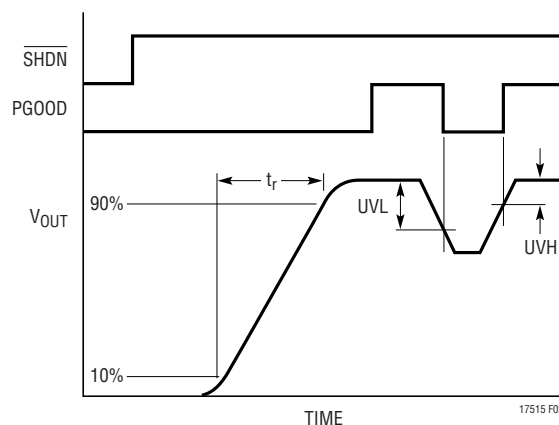

Figure 2. PGOOD During Start-Up and Undervoltage
**Note 6:** See Figure 2.
Once the LTC1751-3.3/LTC1751-5 are enabled via the  $\overline{\text{SHDN}}$  pin,  $V_{OUT}$  ramps to its final regulation value slowly by following the SS pin. The PGOOD pin switches from low impedance to high impedance after  $V_{OUT}$  reaches its regulation value. If  $V_{OUT}$  is subsequently pulled below its correct regulation level, the PGOOD pin pulls low again indicating that a fault exists. Alternatively, if there is a short circuit on  $V_{OUT}$  preventing it from ever reaching its correct regulation level, the PGOOD pin will remain low. The lower fault threshold, UVL, is preprogrammed to recognize errors of  $-7\%$  below nominal  $V_{OUT}$ . The upper fault threshold, UVH, is preprogrammed at  $-4.5\%$  below nominal. Figure 2 shows an example of the PGOOD pin with a normal start-up followed by an undervoltage fault.